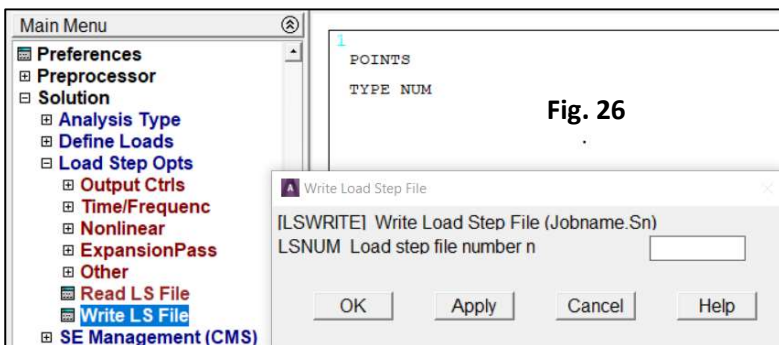

Fig. 26
- first, to capture the thermal shock phenomenon (the greatest temperature difference between the inner and outer surfaces) - specify TIME, NSUBST, FREQ and write the loadstep 1 (Fig. 26),